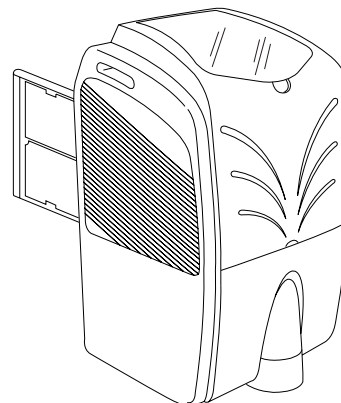

fig. 4
- -To remove the air filter, pull it out (Fig. 4).